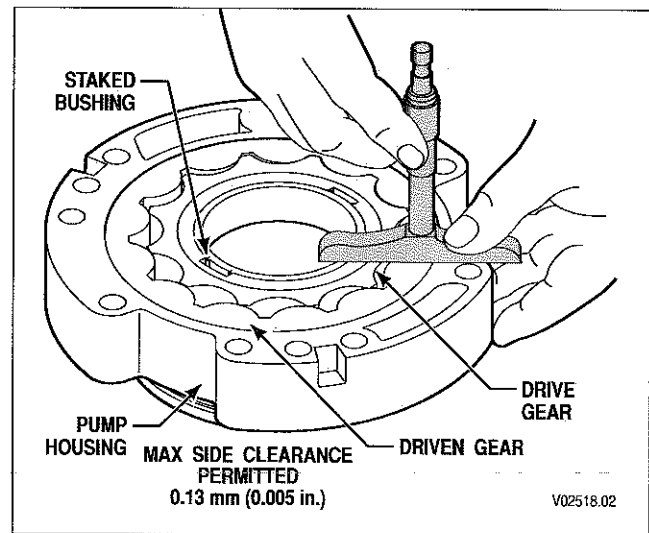

Figure 5-5. Measuring Gear Side Clearance In The Pump Housing
For 3000 Product Family transmissions starting with S/N 6510024410, a NEW staked bushing is used with a NEW gear set. You must use a NEW bushing with the NEW gear set. The later bushing cannot be used with the earlier gear set. Refer to Figure 5-5.
16. Install gear set 10 into pump housing 9. Measure pump gear side clearance (Figure 5-5). Maximum clearance permitted is 0.13 mm (0.005 inch).